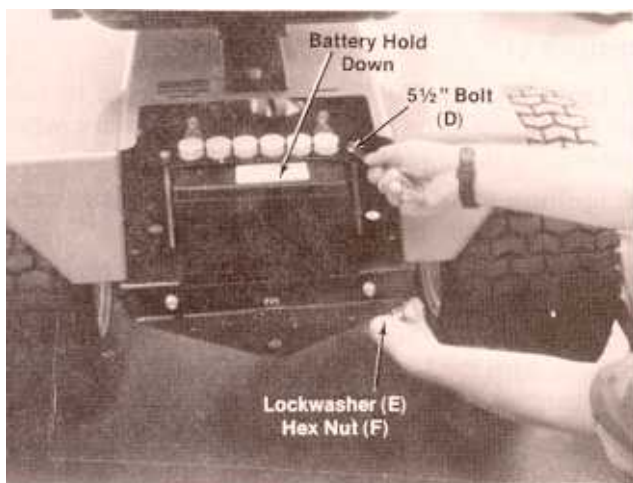

FIGURE 7.
3. Place the battery hold down over battery and secure in place with hex screws (D) 5 1/2 inches long, lockwashers (E), and hex nuts (F). See figure 7.